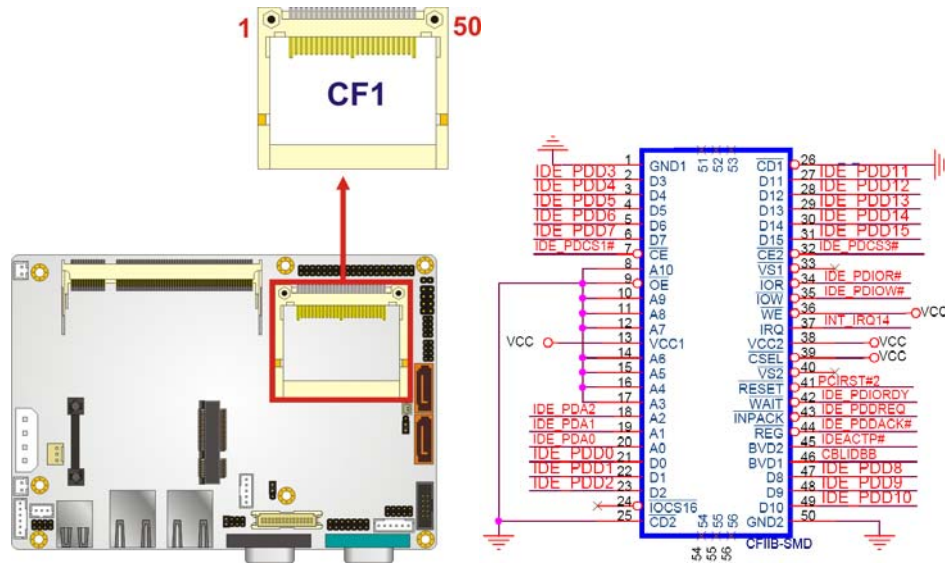

Figure 3-6: CF Card Socket Location
- CN Location:** See **Figure 3-6**